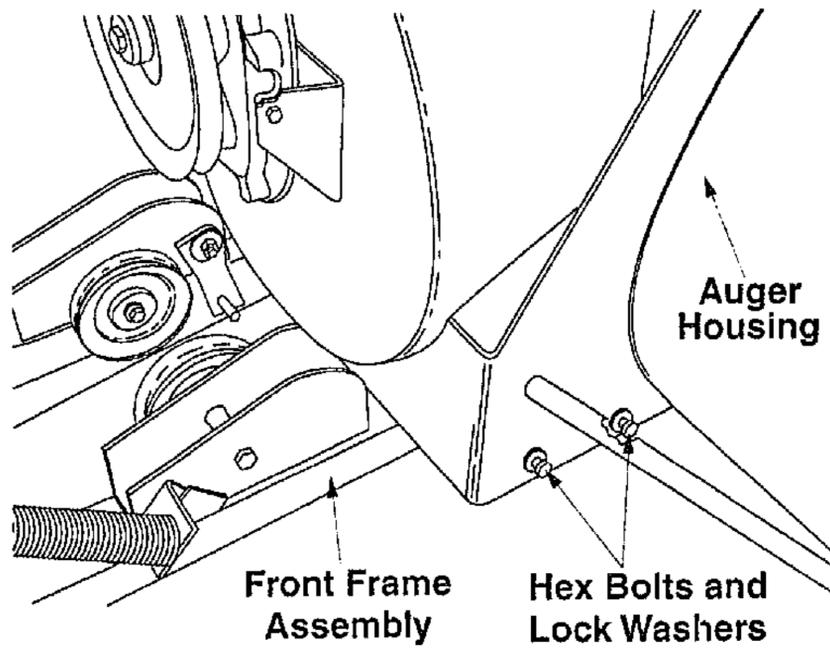

Figure 2
2. Lower auger housing down onto mounting bracket. Align four holes and secure with four hex bolts and lock washers. See Figure 2.